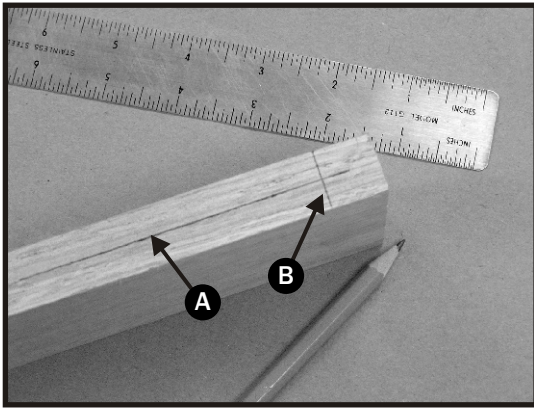
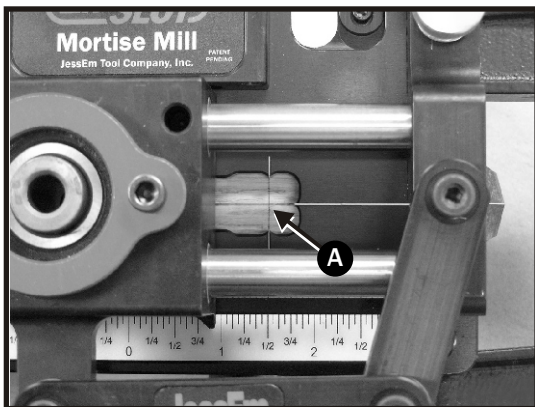

FIG. 6
FIG. 7
Note: Although the scale indicator blocks (B) are preset in our factory. It may be necessary to make a slight adjustment of your own. The scale indicator blocks not only reference the scale to assist in positioning the mortise, they also help to align the carriage plate and keep the mortise parallel to the edge of the workpiece. If you find the sides of the mortise are not parallel to the workpiece or the indicator blocks are not accurately positioning the mortise, adjust as follows- Accurately scribe a line along the length and center of a 3/4" thick board. Clamp the board to the base of the Mortise Mill and check the mortise locator marks under each side of the carriage block. See figure 7 for an example of using the mortise locator marks on the carriage plate. The mortise position scale indicator blocks should be pointing to 3/8" on the scale.
1. The next step is to position the workpiece. This can be done in either of two ways. You can position the workpiece visually by scribing a line along the center of the mortise (letter "A" in Fig. 6). Then scribe an intersecting line that indicates the centerline of the drill bit (letter "B" in Fig. 6). Keep in mind that when you set the carriage stroke, the scales are based on the centerline of the drill bit. So if you are using the 3/8" diameter mortise drill bit, half this dimension is 3/16". So instead of scribing line "B" to indicate the end of the mortise, you need to scribe this line another 3/16" in from where the end of the mortise will actually be.
2. Next position the workpiece under the carriage plate and against the base of the mortise mill. Line up the mortise locator marks on the carriage plate (Fig. 7) with the lines you scribed in step 1 (Fig. 6) above. Then clamp the workpiece securely to the front face of the base of the mortise mill.